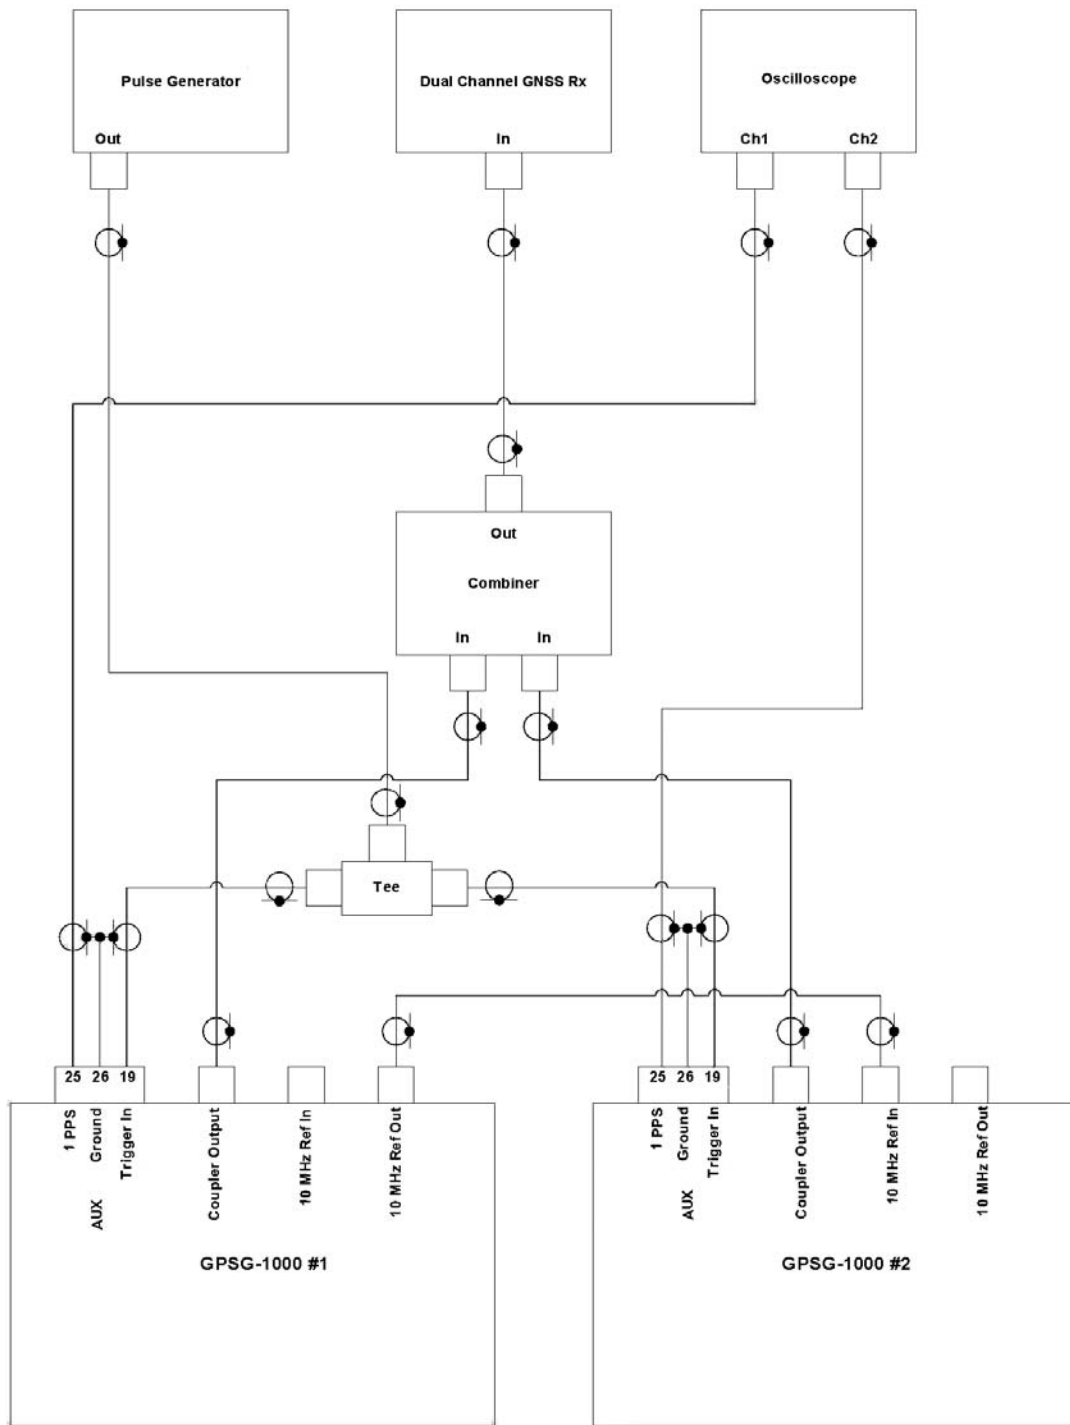

Figure 1
See Figure 1 for equipment interconnection. The interface cables for the AUX connectors on the GPSG-1000 units will be locally fabricated.
2. Set up and connect equipment as per Figure 1. Ensuring that the cables used to connect the pulse generator to the GPSG-1000 units and the 1PPS output of the GPSG-1000 units to the Oscilloscope are equal length ( $\pm 3''$ ).
1. Verify the GPSG-1000 units' connections and interface as per Figure 1.
3. Set the Oscilloscope, connected as per Figure 1, to measure the leading edges of the 1 PPS signal from both GPSG-1000 units. Note the difference between the points that both 1 PPS signals begin to rise from their 0 VDC states. The time difference should be less than 10 nSec.